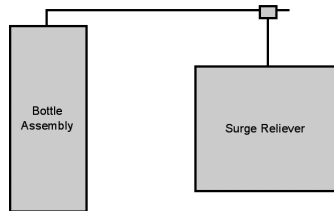

Figure 2
- A. Bottle assembly (See Figure 2). The bottle assembly provides a convenient method to hold pressure in the jacket See adjusting pressure with a bottle assembly on page 3.